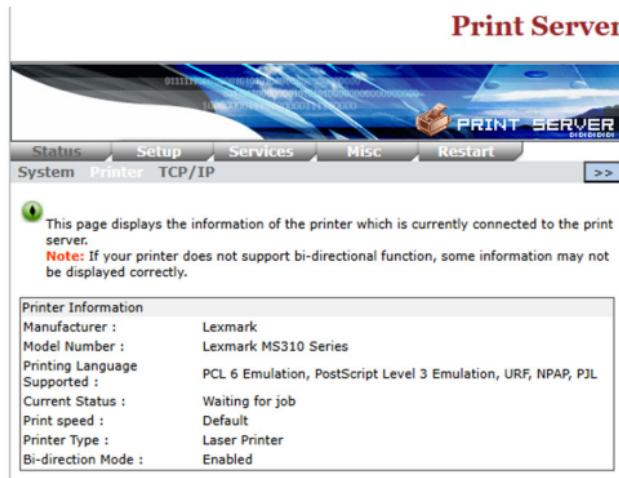

Figure 18
9. Navigate to the **Setup** tab, then click the **Printer** sub-tab to ensure the connected **Printer** is being detected. (Figure 18)